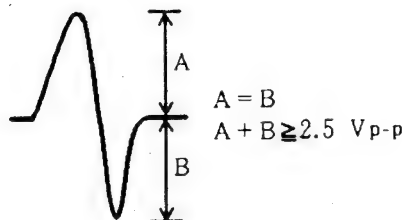

Figure 8
3. While watching the oscilloscope screen, press the OUTPUT key and observe the waveform in Figure 8 for a moment. Verify that the amplitude is at least 2.5 V_{p-p} and that the positive and negative amplitude are about equal. Since the waveform is only output for a moment when the OUTPUT key is pressed, press this key over and over until you have checked the waveform.